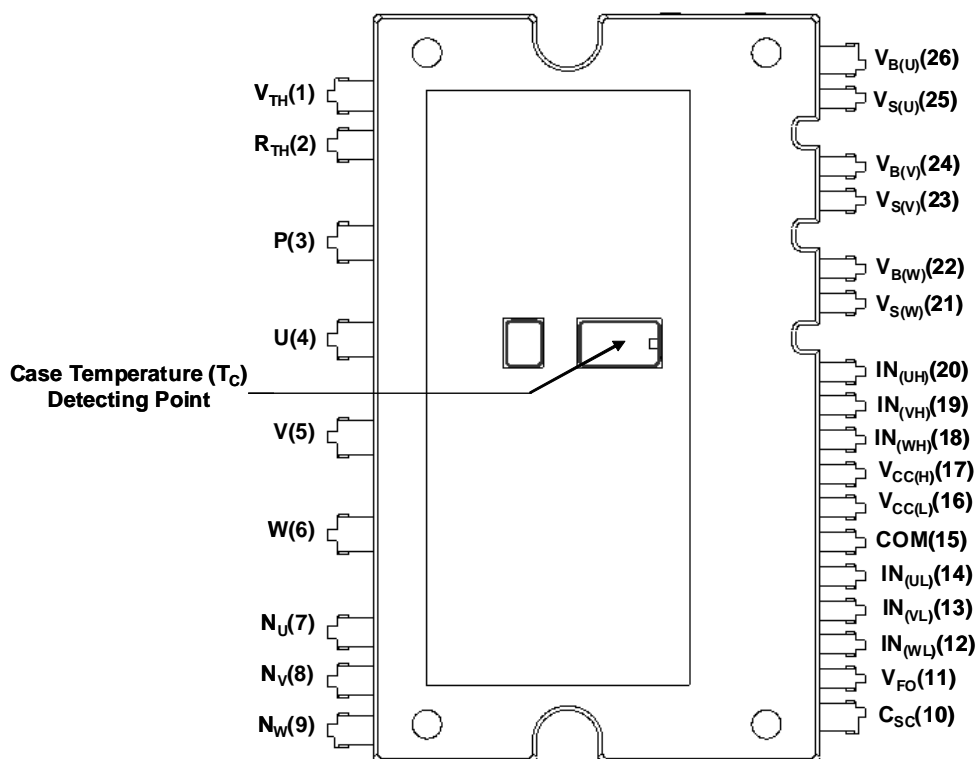

Figure 2. Top View
3. For the measurement point of case temperature (T_C), please refer to Figure 2.